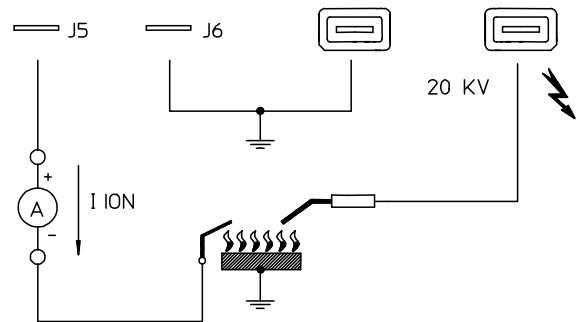

Fig.4
- the level of the flame signal is sufficient, see Fig.4 for the measuring test;